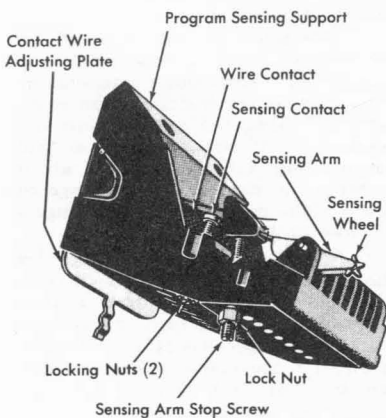

Figure 72. Program Sensing Support
- a. Position the sensing-arm stop screws until they extend about $\frac{1}{4}$ " out of the bottom of the sensing support (Figure 72).